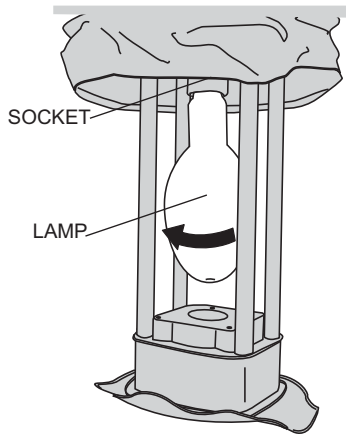

Figure 36. Removing Lamp
7. Remove lamp (Figure 36) from lamp socket by turning lamp in a counterclockwise direction.